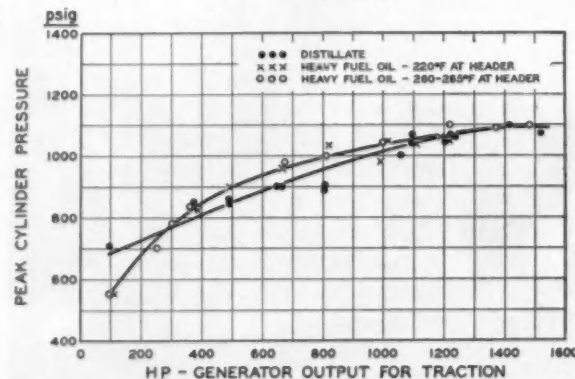

Fig. 3—Relation between peak cylinder pressure and generator output for traction (4-stroke engine).
3. PEAK CYLINDER PRESSURES and exhaust temperatures while operating on ASTM No. 6 fuel compared favorably with those obtained while running on distillate diesel fuel. (See Figs. 3 and 4 below.)